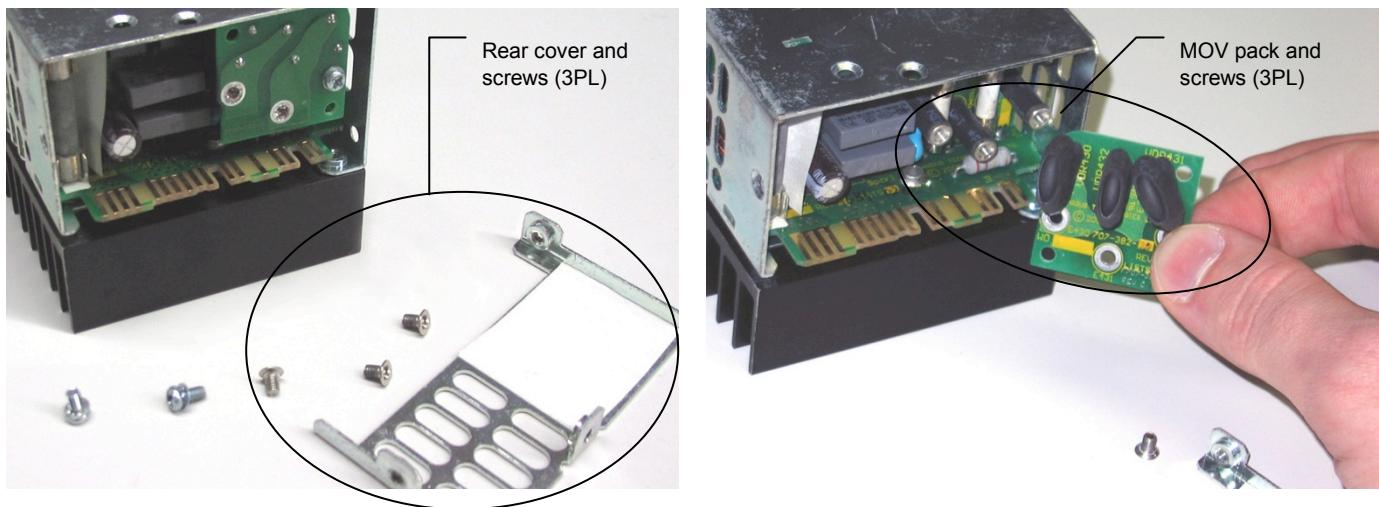

Figure 7–Showing MOV removal and replacement
3. Turn the module around to face the back of the unit and remove the three (3) screws securing the rear grill/cover. Remove the rear cover. See Figure 7: